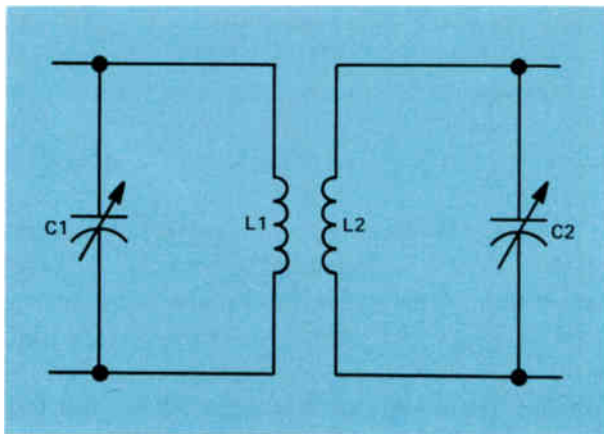
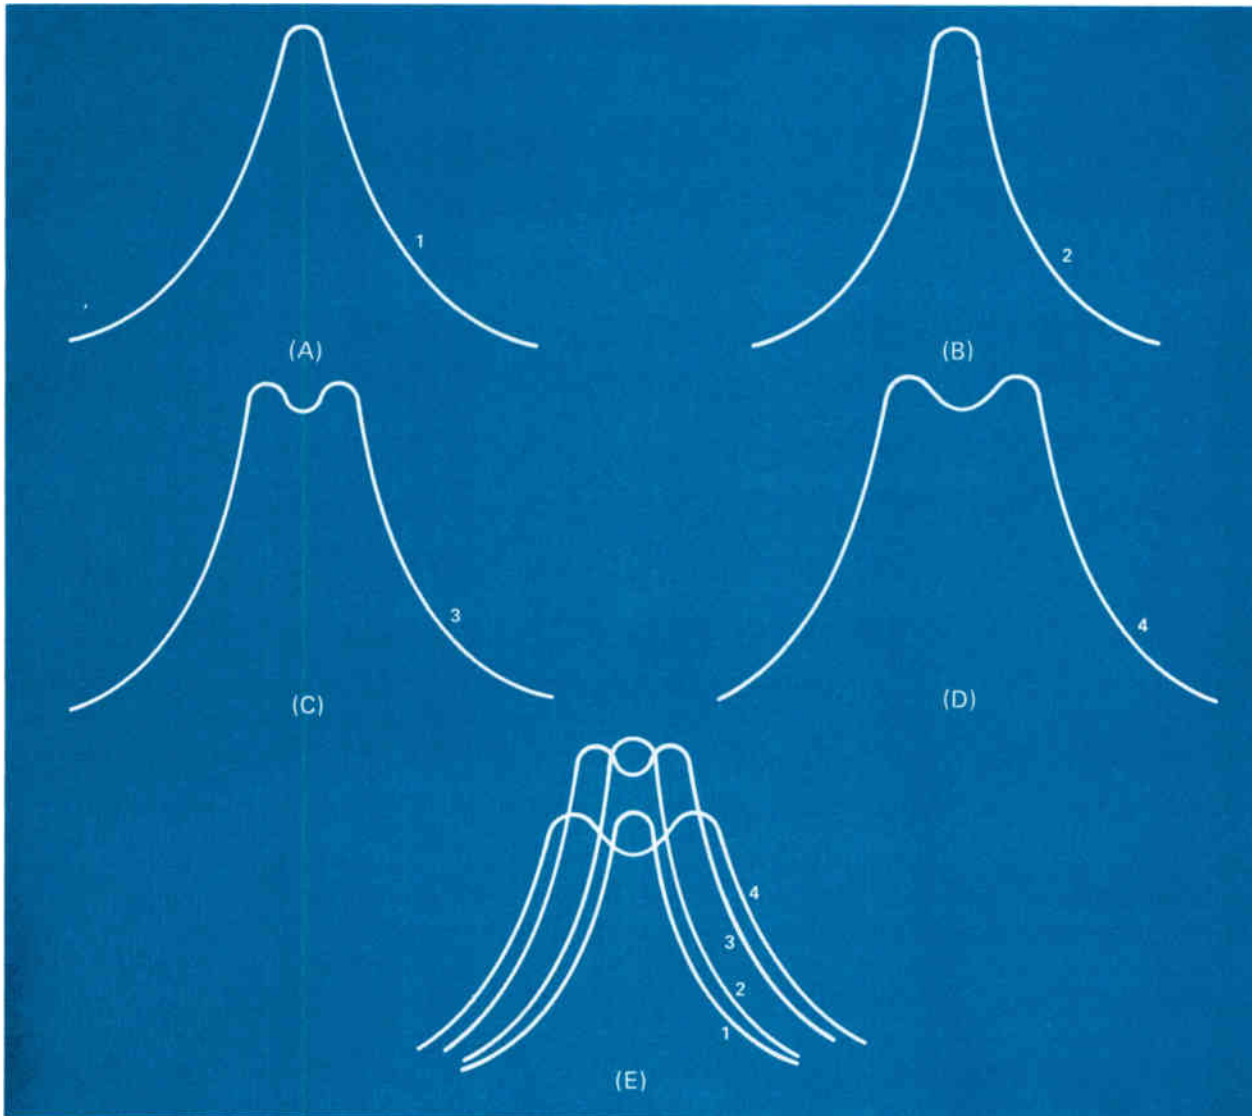

Figure 21. A schematic diagram of a double-tuned rf transformer.
Figure 22. (A) An example of undercoupling, (B) critical coupling, (C) and (D) overcoupling, and (E) a superimposition of the curves.
in Fig.21 we have shown two resonant circuits. The resonant circuit made up of C1 and L1 is a parallel-resonant circuit. However, L2 and C2 form a series-resonant circuit, since L2 is inductively coupled to L1 so that the voltage is induced in series with the turns of the coil. The voltage is induced in L2 by placing it near L1 so that the magnetic lines of force set up around L1 cut the turns of L2. If L2 is some distance from L1, so that only some of the magnetic lines of force set up by L1 cut L2, we say that the circuits are undercoupled or loosely coupled. This will produce a response curve in the output like the one shown in Fig.22(A). If we bring L2 closer to L1, so that eventually we reach a point that all of the flux from L1 is cutting the turns of L2, we get a response curve like the one shown in Fig.22(B). We call this point critical coupling. At critical coupling, all the lines of flux produced by L1 are cutting L2.
If we bring the coils still closer together, we reach a point that is called *overcoupled*. By this we mean that the coupling is tighter than critical coupling and we'll get the double hump response curve shown in Fig.22(C). It is readily apparent that the bandwidth of the curve at (C) is wider than the bandwidth of the curve at (B).
If we want a still wider bandwidth, we can push the coils still closer together and then adjust one resonant circuit until it is resonant slightly below the original resonant point, and adjust the other resonant circuit so that it is resonant slightly above the original resonant point. This will give us a response curve like the one shown in Fig.22(D).
In Fig.22(E), we have superimposed the four response curves so you can see what they look like in relation to each other. Notice that curve 1 is quite sharp, but its amplitude is less than curve 2. There are applications where it is worthwhile to take this drop in output to get a sharp response curve.
In TV applications where an even wider bandwidth is needed, overcoupling and detuning the two circuits is used to get the wide bandwidth that is needed. Even though this results in a lower output as shown by curve 4 in Fig.22(E), we must resort to this technique in order to amplify all of the frequencies in the TV signal. We then make up for the drop in output by using additional amplifier stages.
As a technician, you will not have to be concerned about the coupling between coils in resonant circuits. The engineers that designed the set will take care of this in the design. However, if you have to replace an rf transformer such as the one shown in Fig.21, it is important that you get either an exact duplicate replacement or a replacement that has the same characteristics as the original transformer. Otherwise, you'll change the bandwidth and gain of the amplifier.